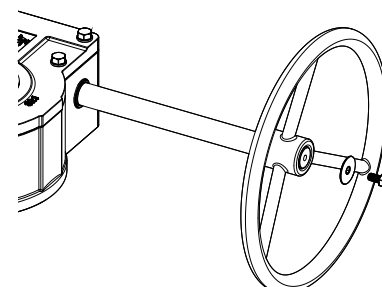

Figure 3
- 1.2 Remove the retaining bolt and washer. See **Figure 3**